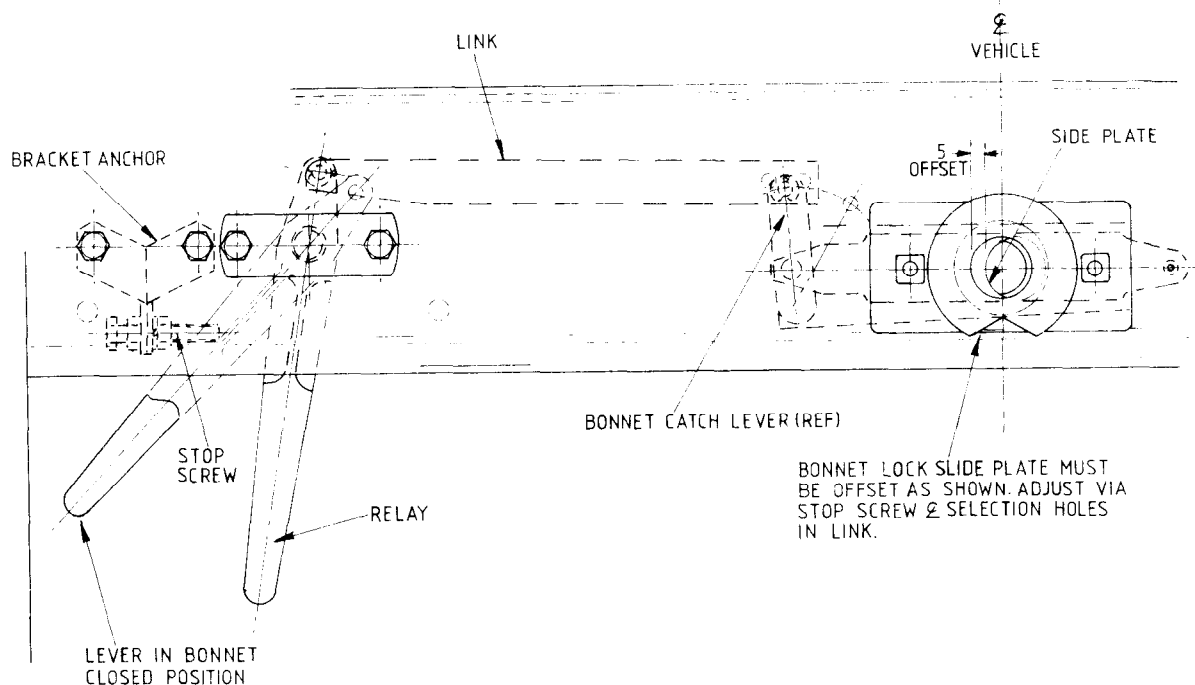

FIG 3 - BONNET LOCK SLIDE PLATE
- o. Adjust anchor screw in the closed position so that the bonnet lock slide plate travels 5mm as shown in Fig 3.